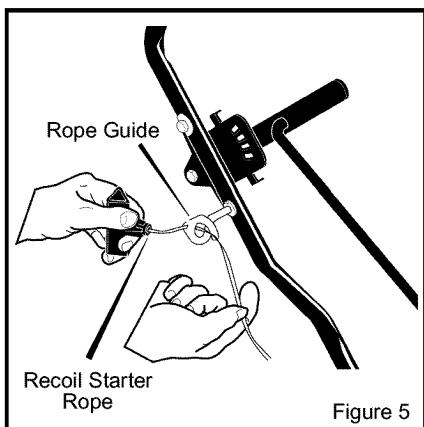

Figure 5
8. To attach the **recoil starter rope** to the **rope guide**, twist the **recoil starter rope** through the **rope guide**. See Figure 5.